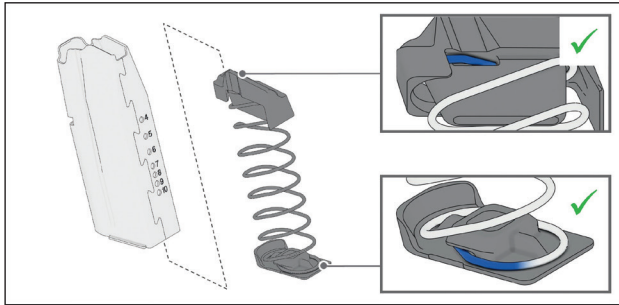

Figure 36 – Observe installation positions
1. Set follower onto magazine spring. Observe installation position (Fig. 36).
2. Place magazine spring onto magazine locking plate. Observe installation position (Fig. 36).